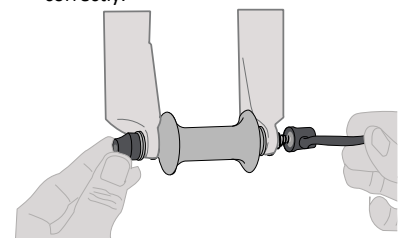

Figure 9. Adjustment position
5. Follow the normal procedure to adjust and close the quick-release (Figure 9):